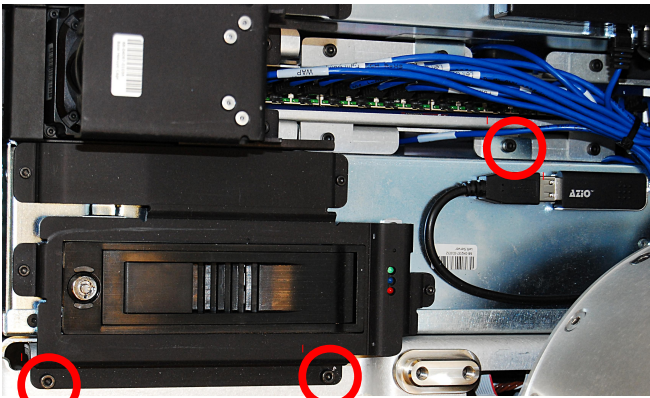
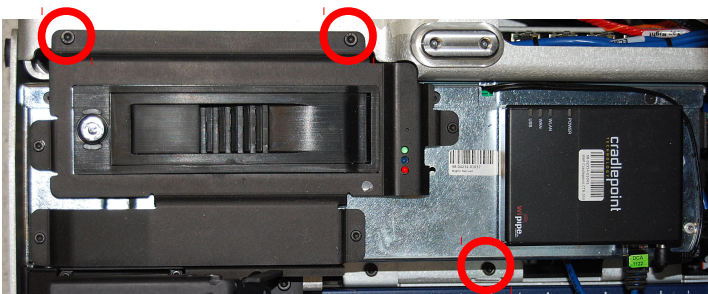

Fig. 1 Left Server
Fig. 2 Right Server
2. Remove the 3 screws that secure the server to the base using a 3mm bit with the T-handle driver (Fig. 1 for the left server, Fig. 2 for the right server)